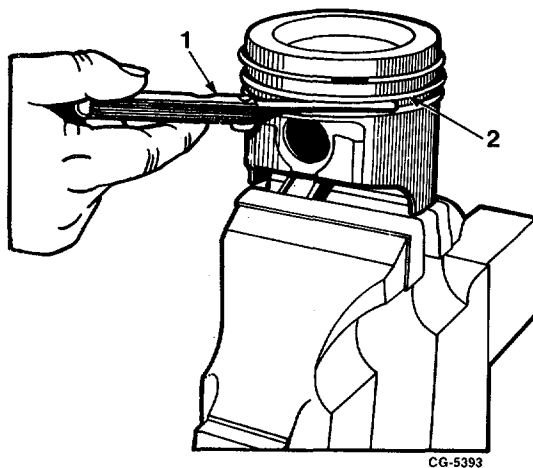

Fig. 100. Checking Ring-to-Groove Side Clearance with Feeler Gauge
1. of each ring in its respective groove, Figure 100. See specifications for proper clearance.